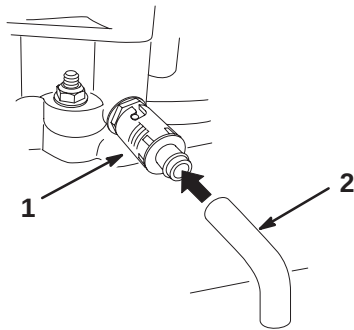

Figure 21
6. Place a pan below the drain hose. Rotate oil drain valve to allow oil to drain (Fig. 21).
8. Remove the drain hose (Fig. 21).